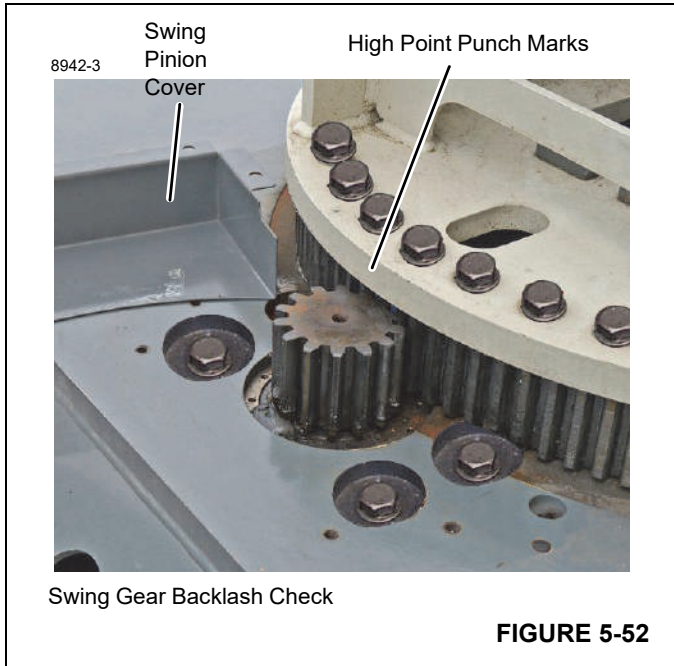

FIGURE 5-52
1. Remove the cover to expose the swing pinion and ring gear (Figure 5-52).
high point is punch-marked on the mast plate (Figure 5-52).